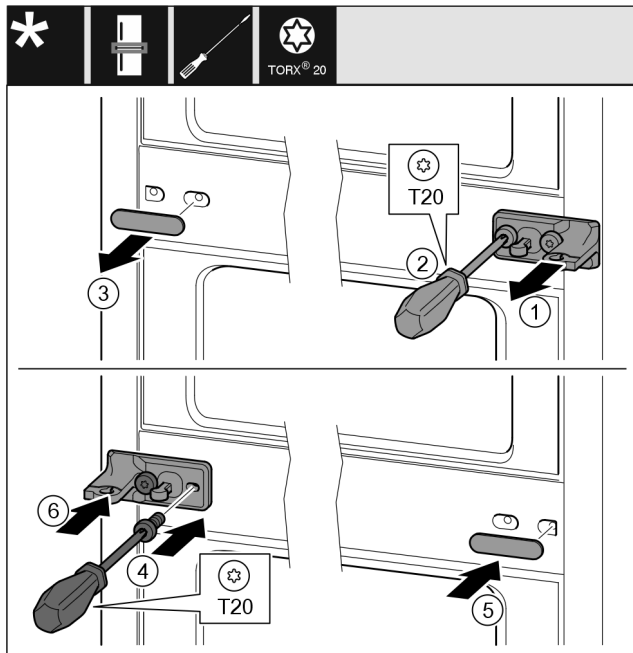

Fig. 10
- Remove the washer. Fig. 10 (1)
- Remove the screws with the T20 screwdriver. Fig. 10 (2)
- Remove the cover carefully. Fig. 10 (3)
- Screw the bearing bracket and the film rotated 180° firmly onto the other side. Fig. 10 (4)
- Attach the cover rotated 180° onto the other side. Fig. 10 (5)
- Push the washer in from the front. Fig. 10 (6)